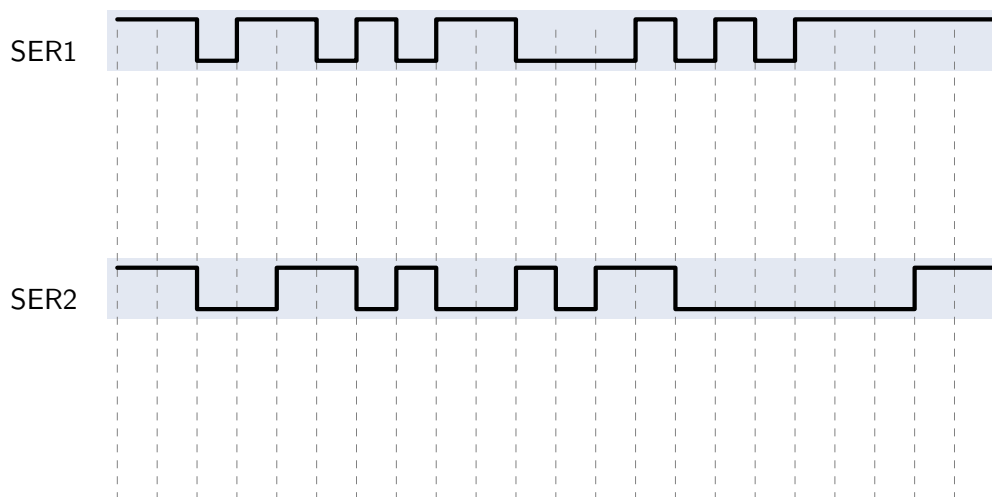

Figure 1.1: Serial interface pulse diagram
In the figure 1.1 the pulse diagram of a RS232 interface is given. Different transmission frames have been used for the communication. A transmission frame is composed of a start bit ('0'), 5-8 data bits, no (N, none) or one bit for even (E, even) or odd (O, odd) parity, as well as at least 1 or 2 stop bits ('1'). Possible frame formats are [5..8][N,O,E][1,2], for example 8N1 for 8 data bits, no parity bit and at least 1 stop bit.
- A) Give all possible frame formats for the pulse sequences as shown in figure 1.1. All given pulse sequences are describing a correct transmission. Start of a transmission is always the startbit in the third timestep.